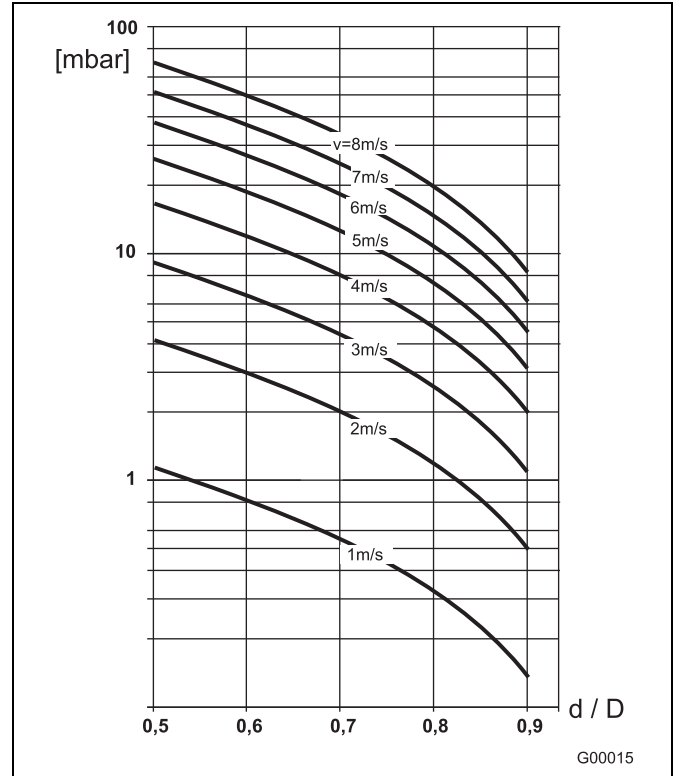

Fig. 12
2. Determine the flow velocity based on the flow range nomograph (Fig. 12).
3. Read the pressure drop on the Y-axis in Fig. 12.